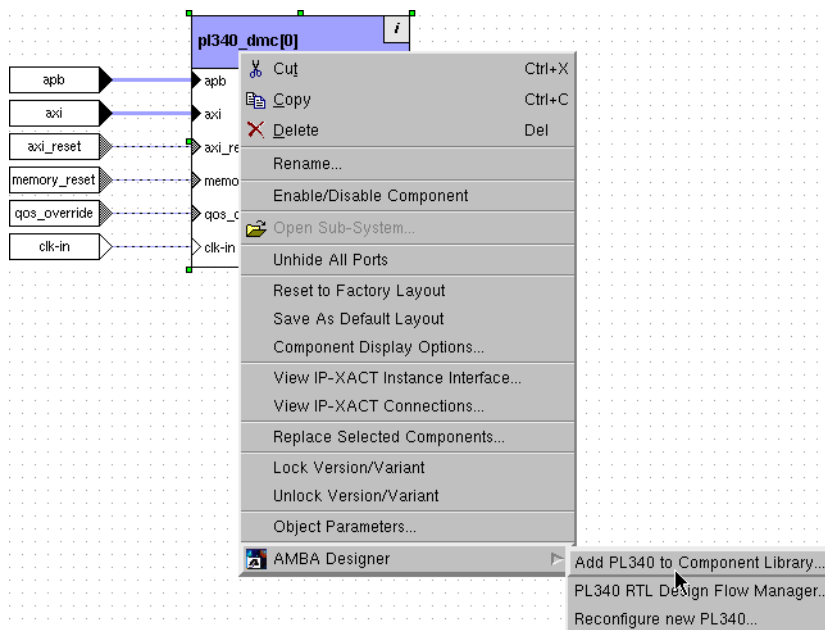

Figure 5-5 Adding the PL340 to the component library
2. Select **AMBA Designer** → **Add PL340 to Component Library...** from the context menu, as Figure 5-5 shows.